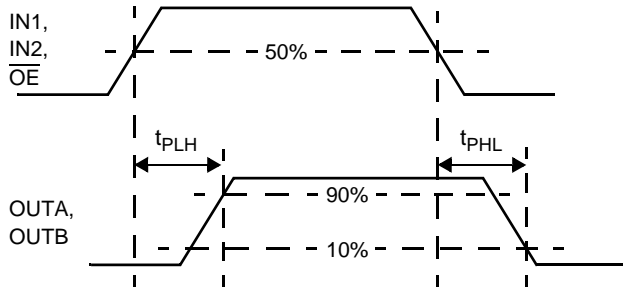

Figure 4. t_{PLH} , t_{PHL} , and t_{PZH} Timing
- 15. Load of Output is 8.0 Ω resistance. see figure 4